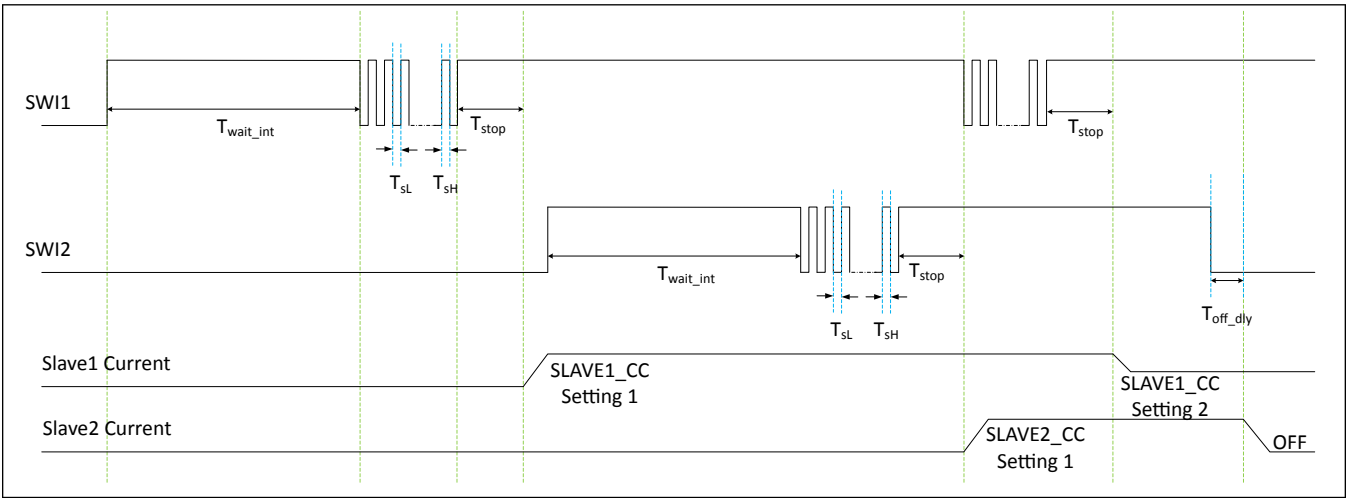

Figure 13. SW1 and SW2 Transmission
7. SWI1 and SWI2 transmission is purposefully staggered to avoid having both slave chargers turn ON at the same time (Figure 13).